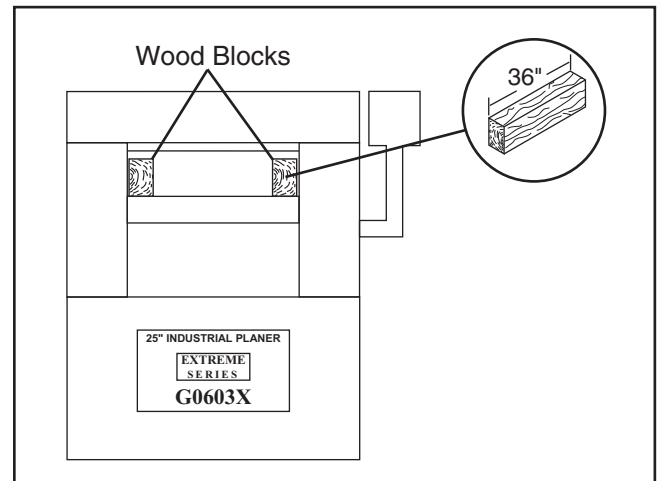

Figure 39. Wood blocks on planer table.
5. Place one wood block along the left side of the table, and place the other wood block along the right side of the table, as illustrated in **Figure 39**.